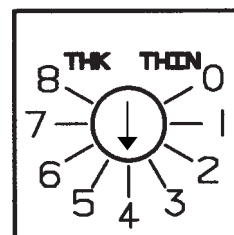

Figure 10-1 Consistency Dial
5. Inside you will see a shaft. Use a small screwdriver to turn the shaft to adjust the product consistency. See figure 10-1. If the product is **too thin**, turn the knob **clockwise**. If the product is **too thick**, turn the knob **counterclockwise**.